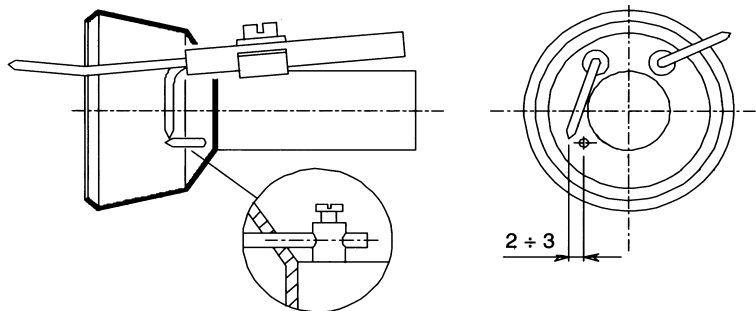
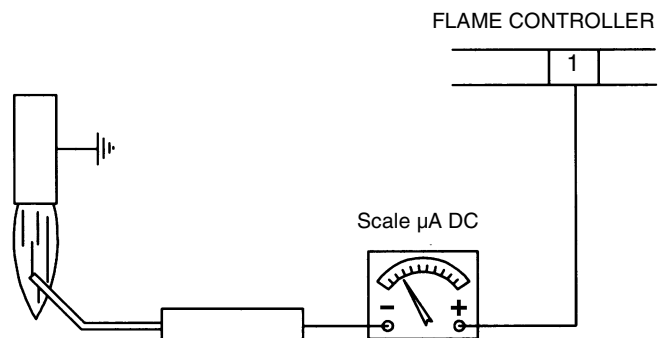

Fig. 19
Fig. 20
- Check of ignition electrode, cleaning, adjustment and, if necessary, replacement (Fig. 19);
- Check of detection electrode, cleaning, adjustment and, if necessary, replacement (Fig. 19). In doubt check the detection circuit as shown in Fig. 20.
To guarantee a proper ignition, the measures indicated in Fig. 19 must be respected.
To measure the detection signal intensity, follow the scheme in Fig. 20.